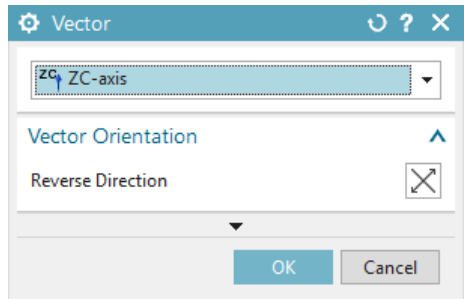

Figure 15-76 The *Vector* dialog box
1. Choose the **Set Parting Direction** tool from the **Setting** group to set the parting direction of the model; the **Vector** dialog box is displayed, refer to Figure 15-76.